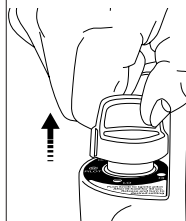

Figure 5: Released Control Knob
- After pilot lights, hold down for 30-60 seconds and then release knob. Knob should return to fully extended position, see Figure 5. To operate heater slightly depress knob and gently turn to lock in the "HI" position to light burner tile. Leave on "HI" position until burner tile turns bright orange.